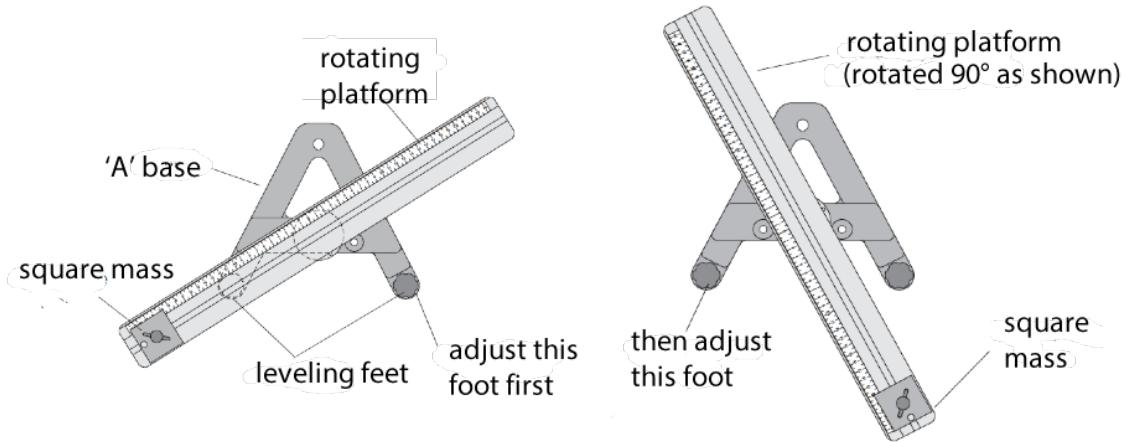

Figure 2: Diagram of the necessary parts to level the apparatus.
1. Adjust the position of the 300 g square mass so that its center is at the 22 cm mark by loosening the screw, sliding the mass along the track, and tightening the screw so the mass will not slide. Rotate the track until the 300g mass is above the left foot of the “A” base, on the same side as the pulley. See the left side of Figure 2.
2. Adjust the leveling screw on the side opposite the pulley until the end of the track with the square mass is aligned over the leveling screw on the other leg of the base. See the left side of Figure 2.
3. Rotate the track 90 degrees so it is parallel to one side of the "A" and adjust the other leveling screw until the track will stay in this position. See the right side of Figure 2.